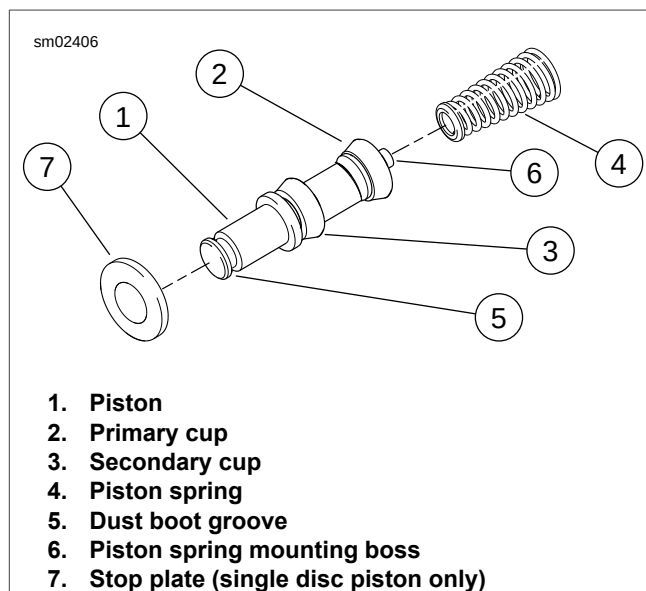

Figure 2-55. Front Brake Master Cylinder Piston (Typical-Single Disc Piston Shown)
3. See Figure 2-55. Install piston assembly into master cylinder.
- a. Press small end of piston spring (4) onto mounting boss (6) on piston (1).
- c. **Single disc piston:** Slide stop plate (7) down over end of piston.
- a. **Dual disc master cylinder:** Press down on piston (14) and install **new** retaining ring (15). Verify that retaining ring is fully seated in groove.
- b. **Single disc master cylinder:** Press down on piston (14) and stop plate (22), and install **new** retaining ring (15). Verify that retaining ring is fully seated in groove.
5. Install **new** dust boot (16). Large lip of dust boot fits down inside end of piston bore. Small lip of dust boot fits into groove in end of piston (item 5, Figure 2-55).
- a. Pivot hole in brake hand lever (18).
- b. End of piston (14).
7. Align hole in brake hand lever with hole in master cylinder bracket. From top of assembly, slide pivot pin (9) through bracket and hand lever.